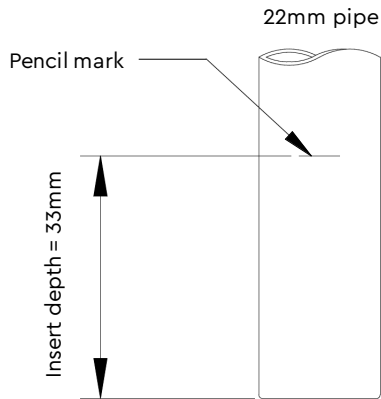

Figure 9
1. Ensure the pipe is free from all score marks and deformities in the area of the insertion depth (Figure 9) and cut the pipe square, removing all burrs and sharp edges to prevent damage to the sealing O-ring.